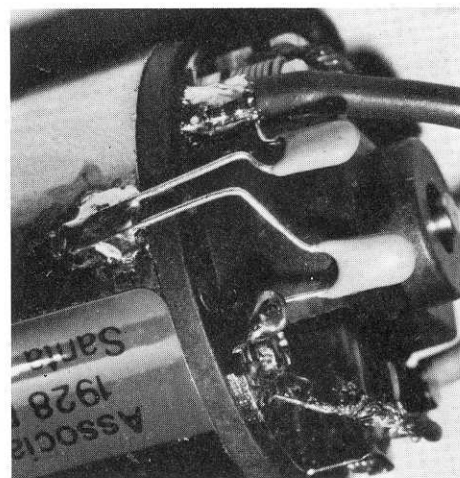

Fig. 117
□ **Figs. 117 & 118** Time to put the horsepower in the car. Using ROSIN core solder, solder the motor lead wires and filter capacitors to the #6500 motor, as per the instructions included in the motor bag. Take your pinion and install the pinion, as shown. The end of the pinion should be even with the end of the shaft. NOTE: The motor and pinion do not come with the kit.